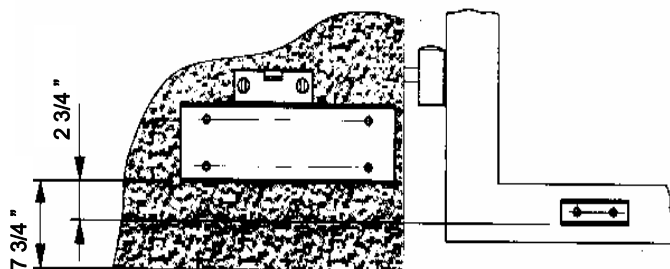

Figure 4. Operator Position
- * Secure the base plate to the column and check to see if it is level. Figure 4.